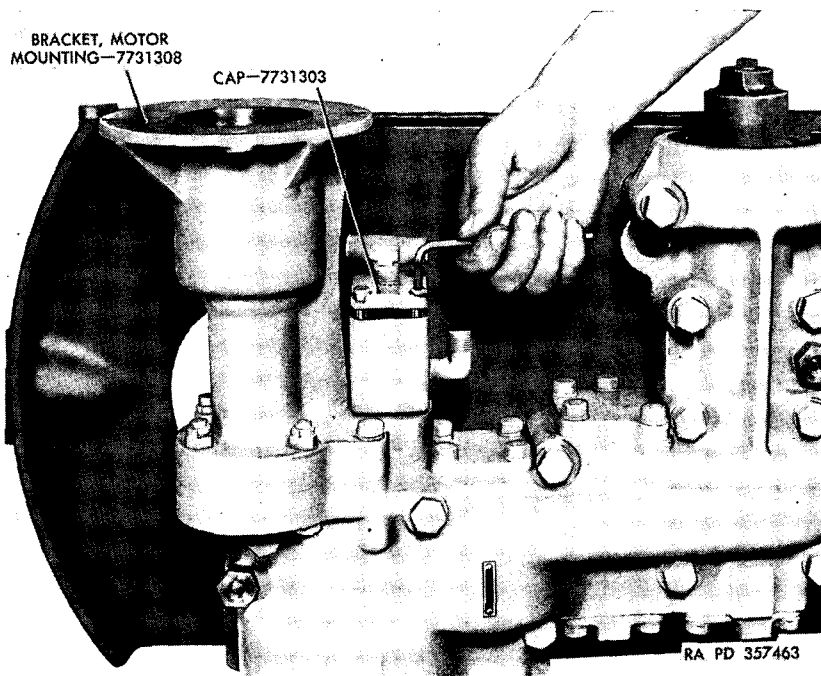

Figure 56. Removing or installing of hydraulic locking cylinder.
c. REMOVE HYDRAULIC LOCKING CYLINDER. Turn tee in hydraulic locking cylinder cap one-eighth turn counterclockwise and remove four screws, lock washers, cap, packing, and spring (fig. 56). Lift off cylinder assembly and plunger.